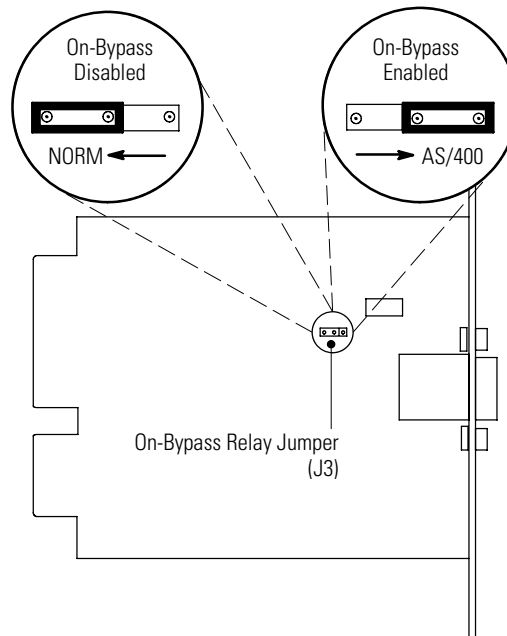

Figure 27. On-Bypass Relay Jumper
2. Move the J3 jumper to the AS/400® position to enable the On-Bypass relay as shown in Figure 27.